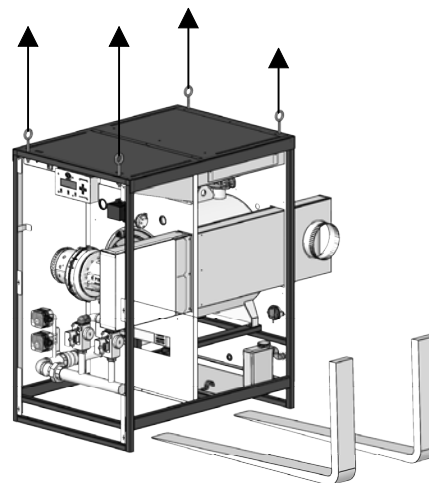

Figure 2.2: Lifting the Upper Boiler
3. The boiler can be lifted several way; with a fork lift, with a chain hoist using eyebolts through the top mounting holes of the unit as shown in Figure 2.2, or by passing 5 to 10 foot (2-3 meter) lengths of 1 to 1-1/4" schedule 40 or 80 pipe through the boilers frame.